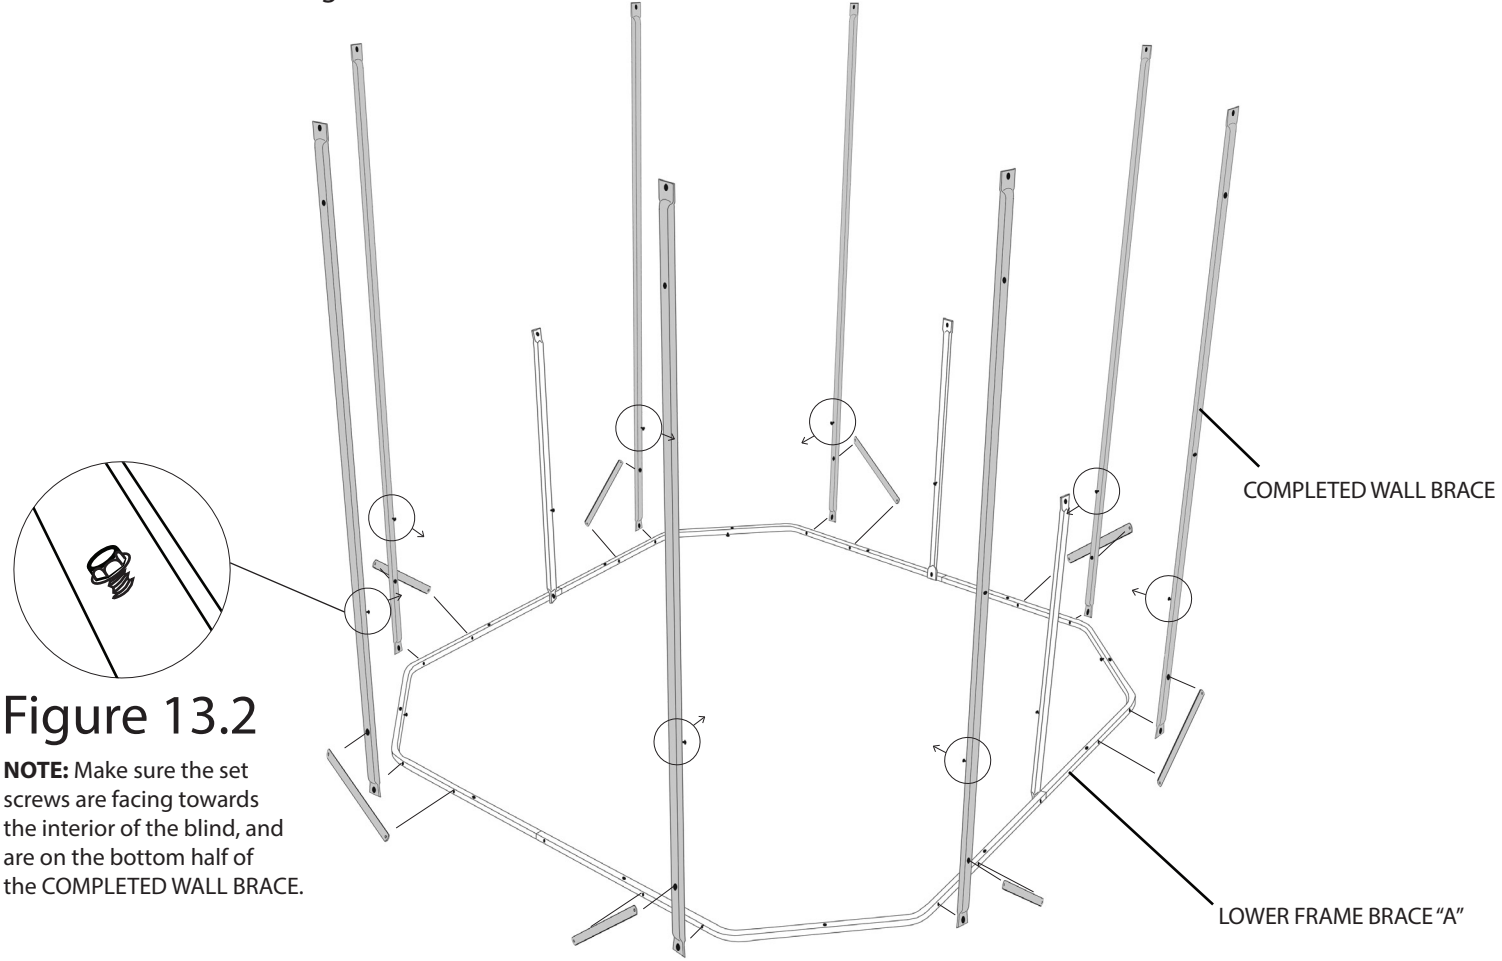

Figure 13.2
STEP 5: Locate the (8) COMPLETED WALL BRACES & (8) CROSS MEMBER BRACES "J". Using (16) 1-1/4" BOLTS & (16) NUTS attach one end of the CROSS MEMBER "J" to the COMPLETED WALL BRACE, as illustrated in Figure 13.2. Then fasten the COMPLETED WALL BRACE & the other end of the CROSS MEMBER BRACE "J" to the LOWER FRAME BRACES "A", as illustrated in Figure 13.1. Make sure the set screws on the (8) COMPLETED WALL BRACES are facing towards the interior of the blind, and on the bottom half of the part, as illustrated in Figure 13.2.